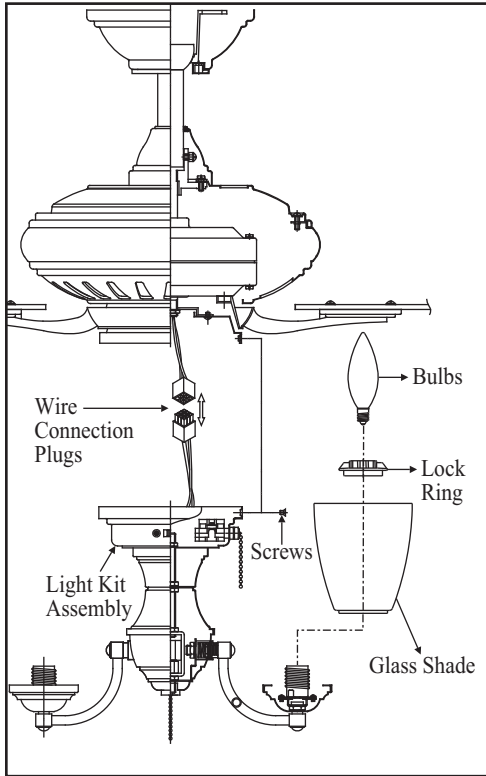

Figure 22
2. While holding the light kit assembly under your fan, snap together the wire connection plugs. (Fig. 22)
3. Carefully push all wires back into the switch housing, then install the light kit assembly onto the mounting plate with 3 screws provided. Be sure to tighten all screws. (Fig. 22)
4. Remove the lock ring from the socket by turning the lock ring clockwise until it unlocks. Insert the glass into the glass holder and turn the lock ring counter-clockwise to tighten the glass. Repeat for the remaining glass. (Fig. 22)